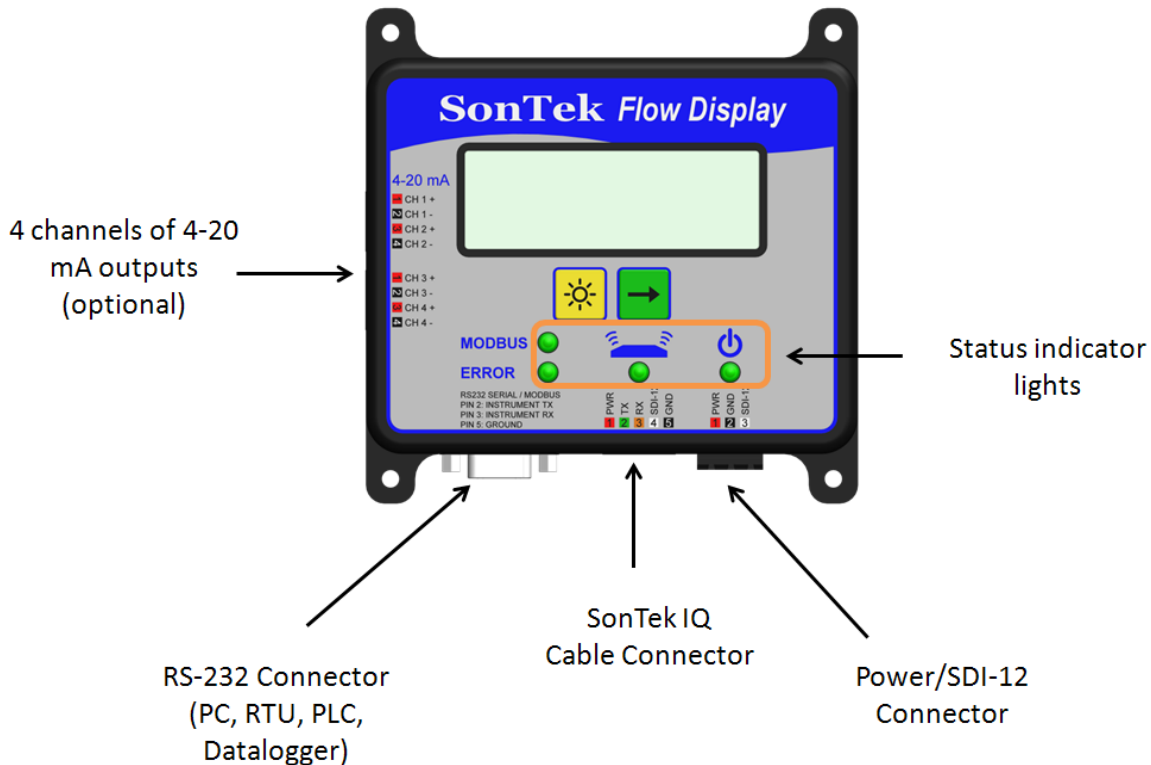

Figure D1. SonTek-IQ Flow Display with analog outputs
- The analog output display that includes four channels of 4-20 mA output (Figure D1).